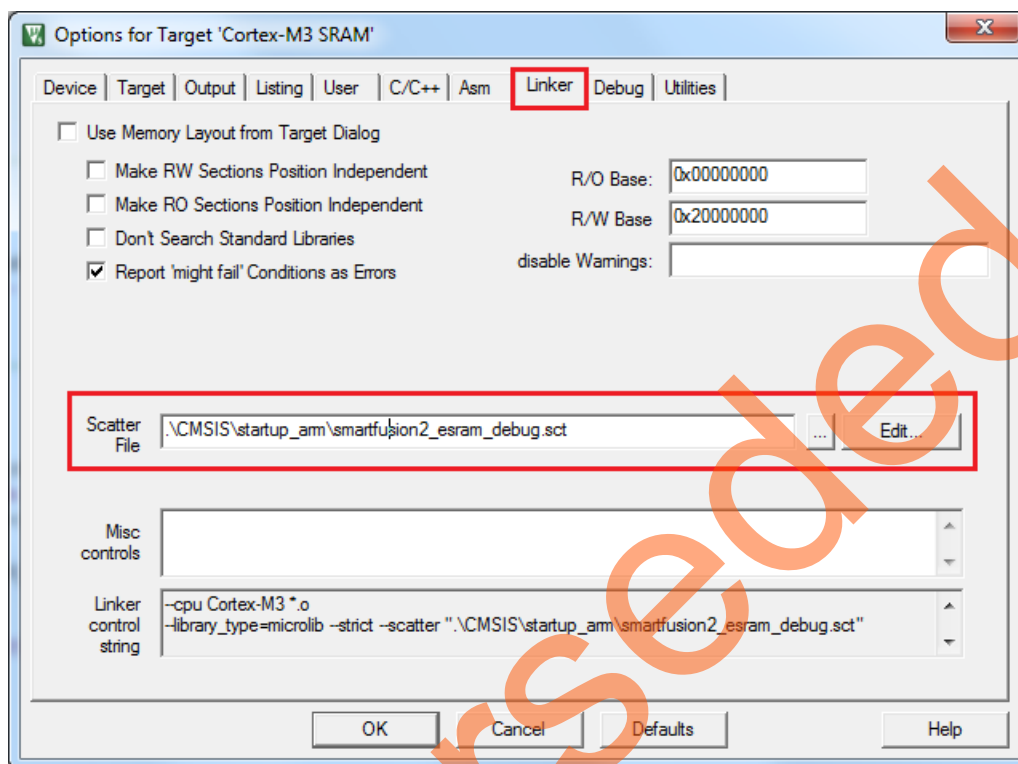

Figure 29 • Target Options - Scatter File
13. Click the **Linker** tab and navigate to the SF2_SPI_Flash_Keil_Tutorial_DF\LiberoProject\Keil\CMSIS\startup_arm folder to select the **Scatter File** as smartfusion2_esram_debug.sct, as shown in Figure 29.